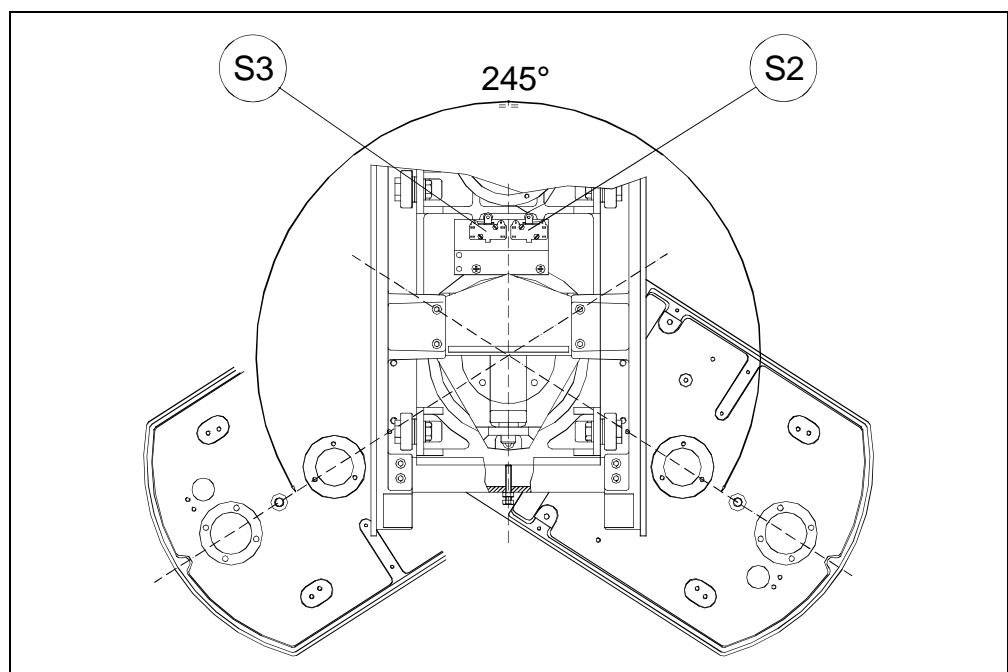

Figure 7-5
Another possible cause is the failure of one of the start/stop rotation microswitch S2/S3 (see Figure 7-5). Check the microswitch and/or connections.
- 2.** Manually move gently the rotating arm to the 0° position, until reaching the relevant microswitch S2 (see Figure 7-5).
8. Press "R" key (32; Reset); the arm will rotate up to reach the 0° position.
9. Switch OFF the unit; switch it back ON by activating the set-up function (see above Note 2) and press the "T" (31) button: the display will show A/D followed by a number; press the "decrease" key (40) to store the value corresponding to the 0° position.
10. Press "T" (31) key to store the value.
11. Rotate the arm by pressing and holding the "T" (31) key checking that the end run angle reached is 245° .